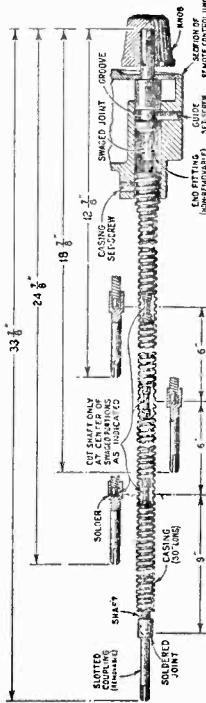

Figure 3
**Flexible Shaft.**—Insert that end of the flexible shaft to which is attached the slotted coupling through the bunched opening in the left side of the receiver unit. Then rotate the shaft from the free end until the coupling slot is felt to engage over the pin contained in the tuning mechanism and slide the shaft forward to the full depth of the slot. With the shaft held in this position, insert the opposite end of the shaft through the bushing at the rear of the remote control unit and push forward until the flatted portion of the shaft protrudes through the front cover. Then proceed to tighten the external set-screw (located at the bottom of the case—see Figure 3) adjacent the shaft position as necessary until the screw is felt to engage in the groove. Tighten the screw fully to the bottom of the slot and then loosen it approximately one-quarter of a turn. Finally, secure the flexible casing in place by tightening the set-screws at each end.
**NOTE.**—In many installations it will be found necessary or desirable to use a flexible shaft of shorter length than 33 3/4 inches. While it is simplest to procure a shaft of proper length from the dealer as mentioned heretofore, very little difficulty should be experienced in shortening the original part if desired expedient. To shorten the shaft, refer to Figure 3 and proceed as follows: